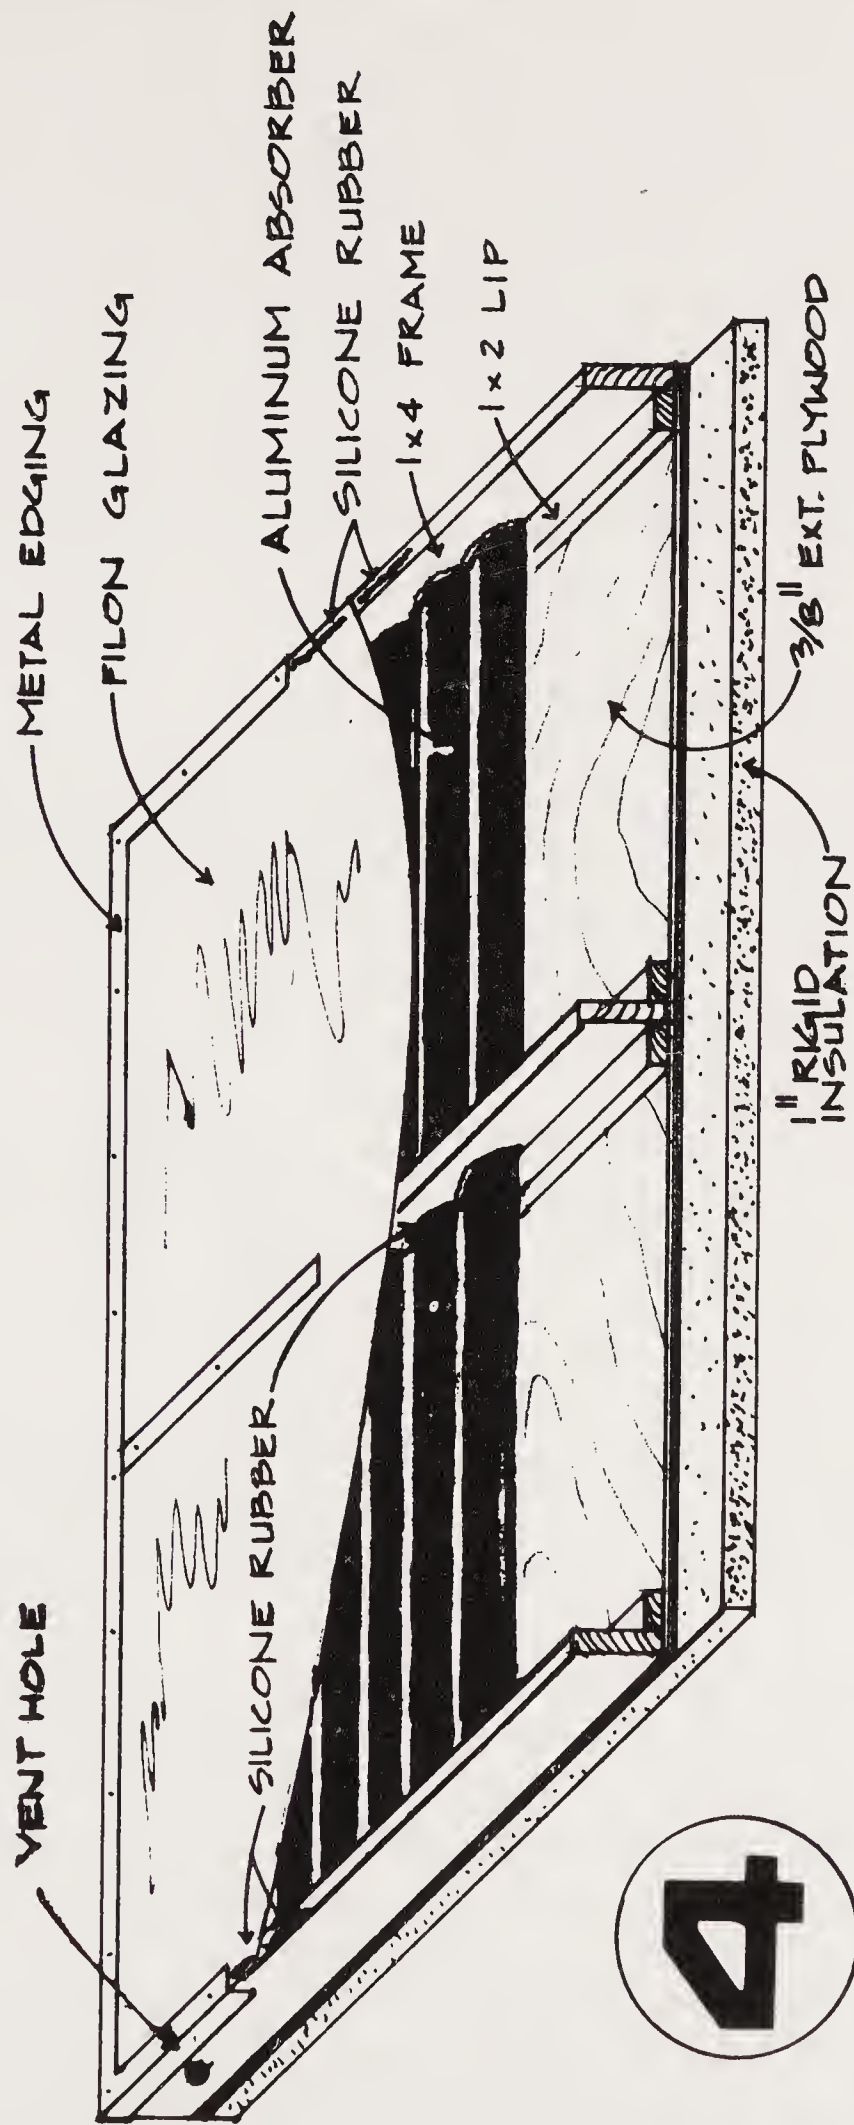

Fig. 2-140. Section of solar system (courtesy of Office of Human Concern written by Joel Davidson and plans by Albert Skiles).
**Step Ten.** Touch up the flat black paint at nail heads and any scratches. Paint the inside of the 1 x 4 frame black. Turn the frame over and paint the back of the plywood and outside of 1 x 4's with exterior house paint to seal the lumber (Fig. 2-140).